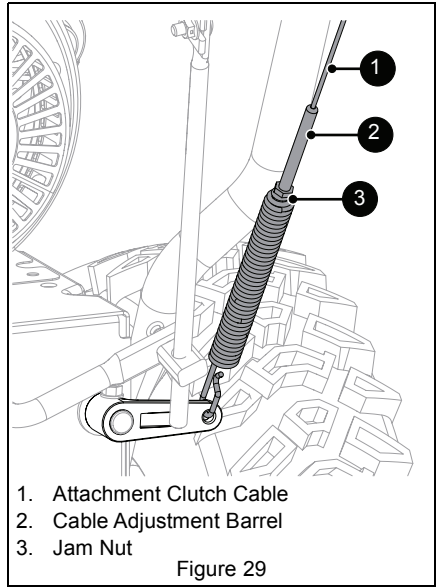

Figure 29
4. Loosen jam nut on cable adjustment barrel, and then turn the adjustment barrel down to shorten cable and remove cable slack. See Figure 29.
6. Tighten jam nut on cable adjustment barrel. See Figure 29.